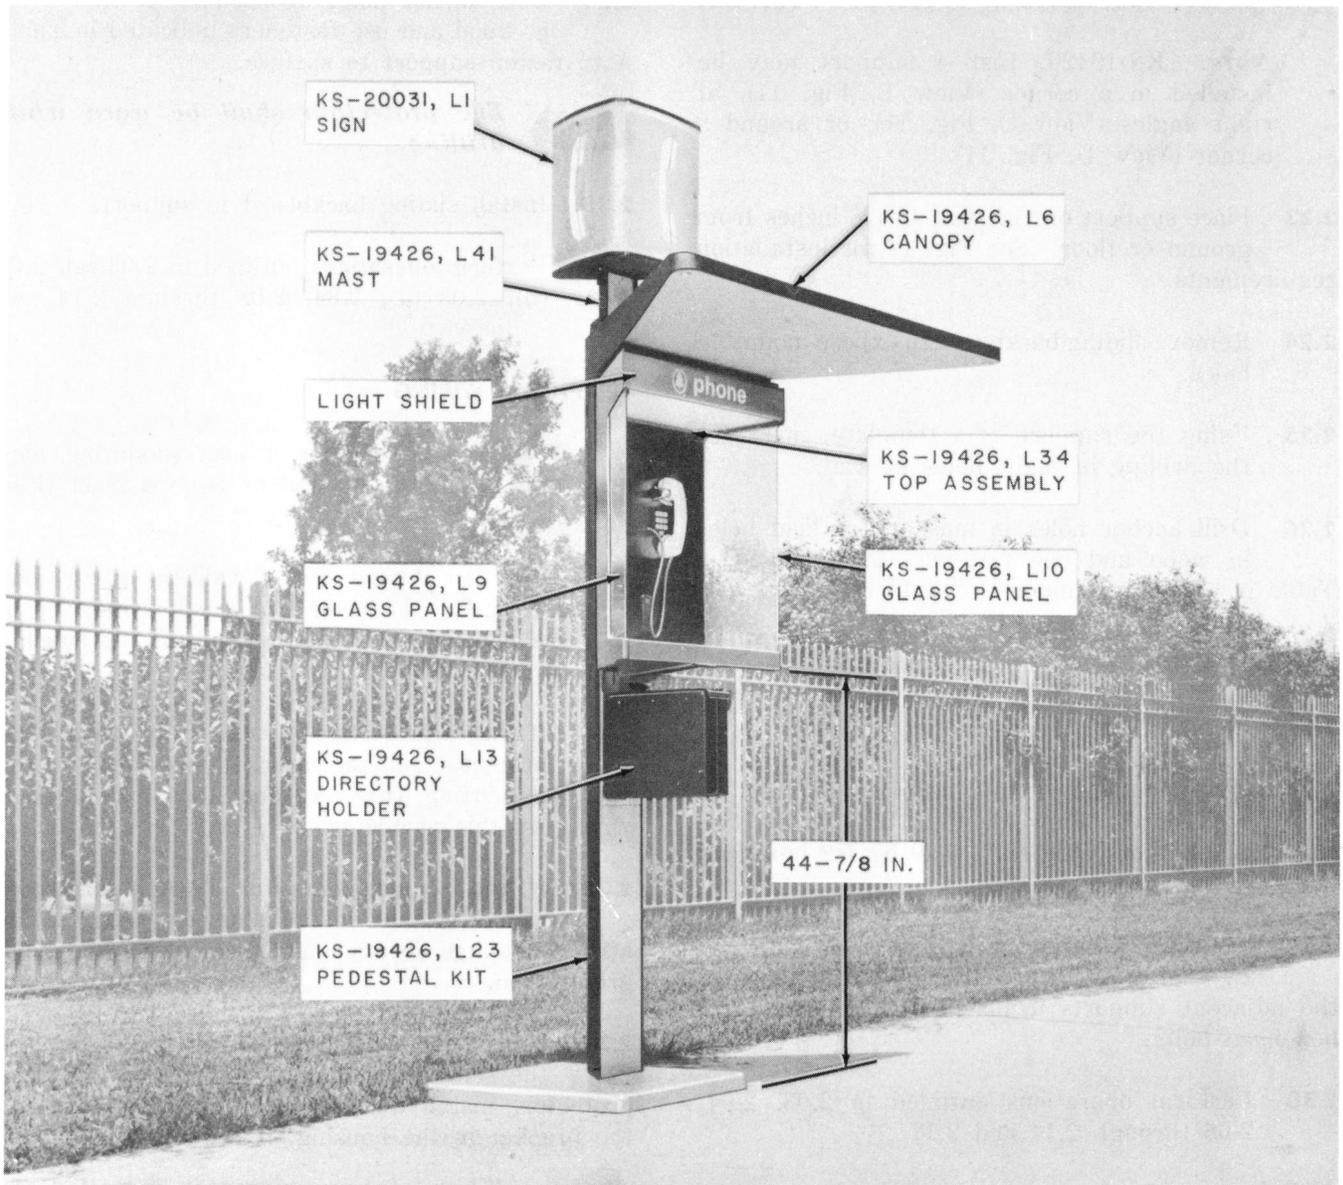

Fig. 10—KS-19426 Mounting For Walk-Up Outdoor Service With List 41 Mast and KS-20031 Illuminated Sign
- (1) Install slide mechanism under shelf of housing using six No. 8-32 by 1/2 round head screws.
- (2) Fasten the book holder to the slide mechanism by inserting the hinge pin through the hinge arm and securing with No. 10-32 tamper proof screw using KS-19192, List 1 wrench.
**KS-19426, LIST 41 MAST AND KS-20031, LIST 1 SIGN (Fig. 10)**